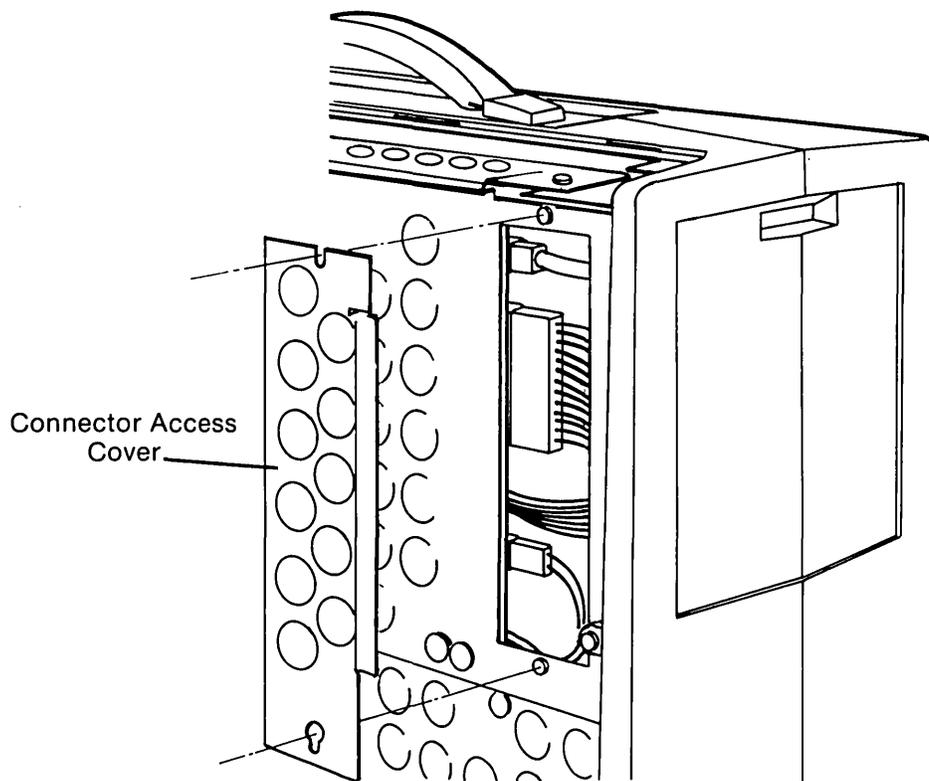

Figure 5-12. Processor Board Connector Access Cover.
- 9 Place the computer so that the display is facing downward against the work surface. Locate and loosen (DO NOT REMOVE) the two (2) screws which secure the narrow access cover for all the processor board connectors. Remove the narrow access cover by lifting it away from the system chassis (see Figure 5-12).